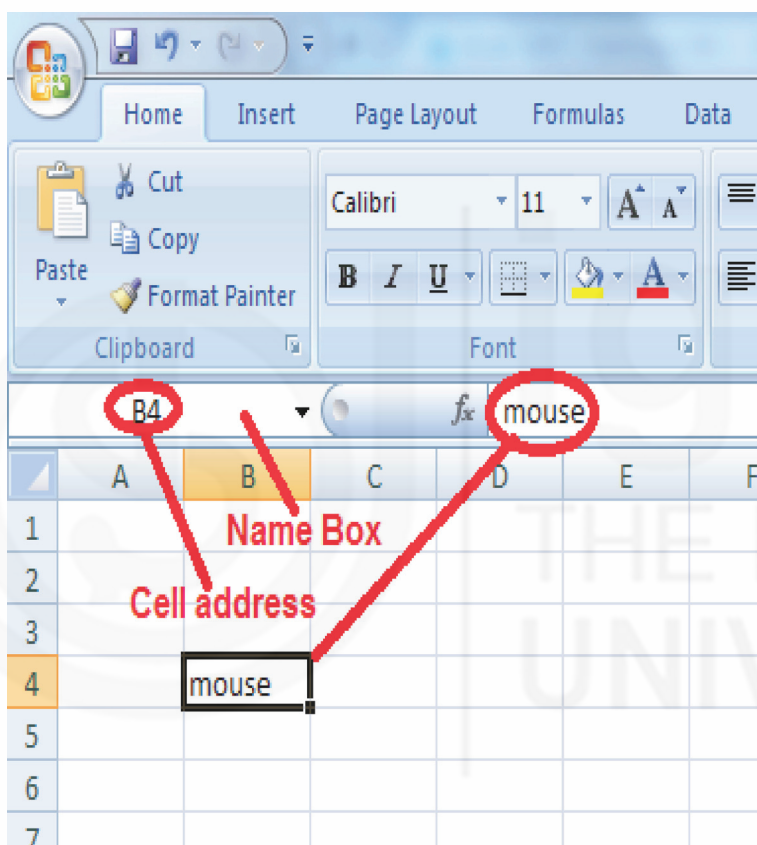

Fig. 14.10: Working with cells.
- Left click on any cell in a column to select it the selected cell address will appear in the Name Box. If a cell from column B and row 3 is selected then B3 will appear in the name box (Figure 14.10).